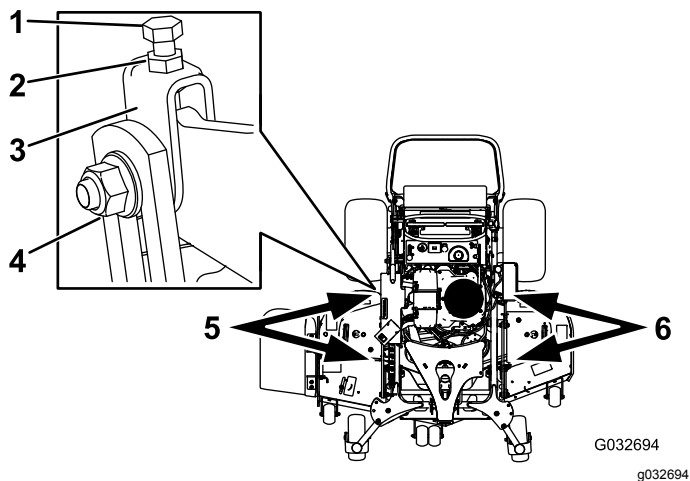

Figure 86
1. Loosen the side nut and jam nut in the yokes you want to adjust (Figure 86).
2. Rotate the top bolt of the yokes to adjust the height of the mower deck (Figure 86).